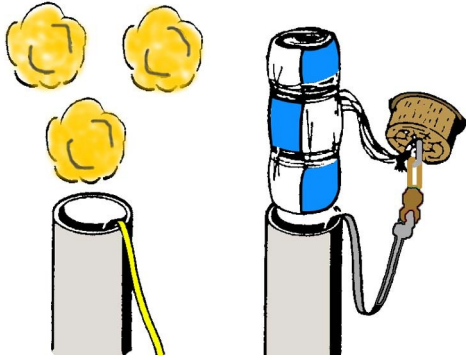

Figure 9
- **Step 20** Attach the parachute snap link to the screw eye in the base of the nose cone. As shown in Fig. 9, push three or four crumpled sheets of recovery wadding, or about 2" of shredded cellulose insulation, down into the body tube until it is just above the motor tube. Do not pack this material tightly. It is meant to act as a gas seal and to protect the parachute from the ejection charge. This material must come out of the tube to properly deploy the parachute. Insert the lines over the wadding, then the parachute over the lines. Finally, insert the nose cone.